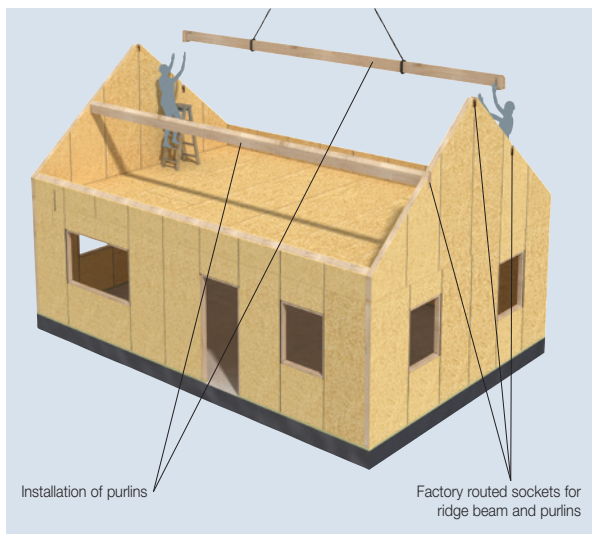

Figure 23 Installing Ridge Beams / Purlins
Figure 23 below identifies common locations for principal beams and purlins.
**Kingspan TEK® Building System** gable wall panels often support purlins and / or a ridge beam. These purlins / beams are installed in exactly the same way as first floor beams (see section 7). Installation of purlins and ridge beams is illustrated in Figure 23.